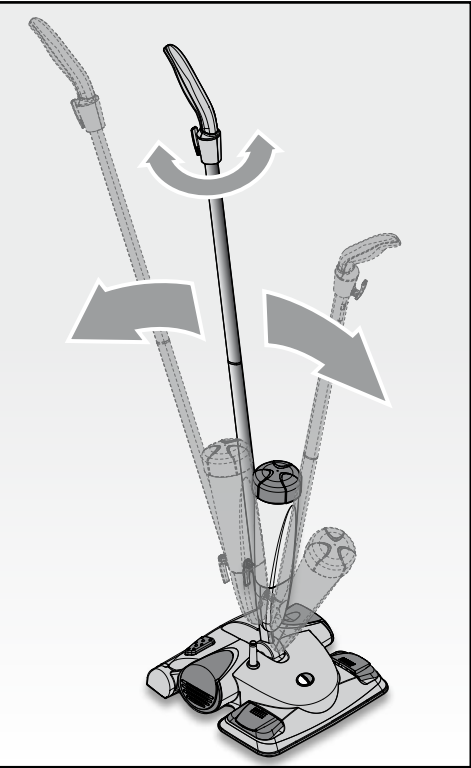

Fig. 3
The suction and steam functions are enabled simply by angling the handle (I): it is possible to pass from one function to another by inverting the angle of the handle (I) and the direction of use (Fig. 3). The handle can then be rotated 180° to follow the direction of use.